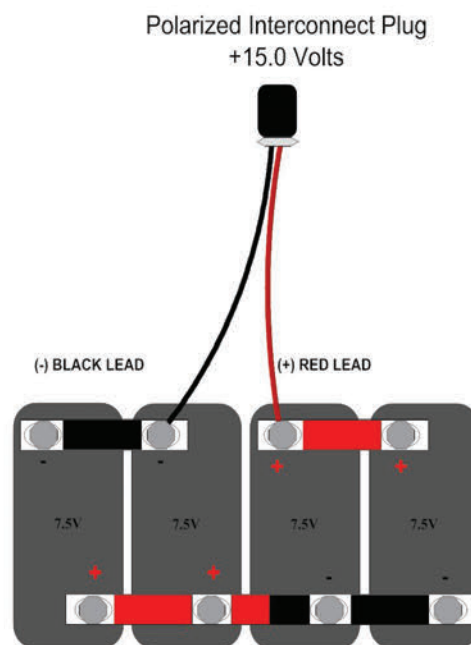

Figure 2:
3. The battery is configured with a **POLARIZED** interconnect plug. Connect the battery leads according to the illustration and connect to the fused power cable coming from the unit’s sub-rack. *(See Figure 2)*